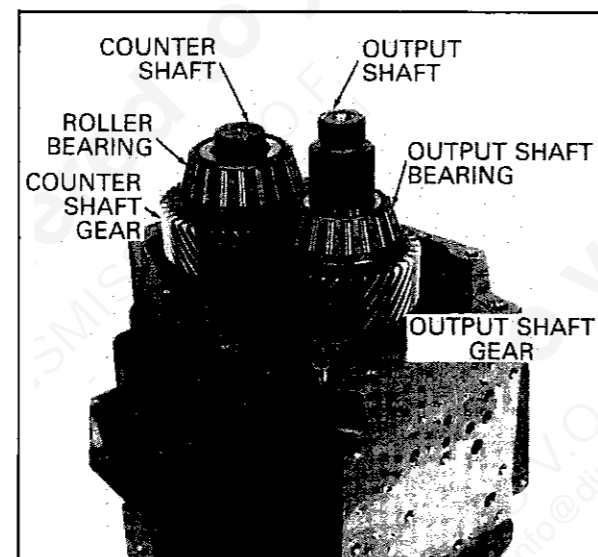

FIG. 13 OUTPUT SHAFT, GEAR AND BEARING REMOVAL
13. Lift the output shaft, gear and bearing assembly from the transmission case (Fig. 13).